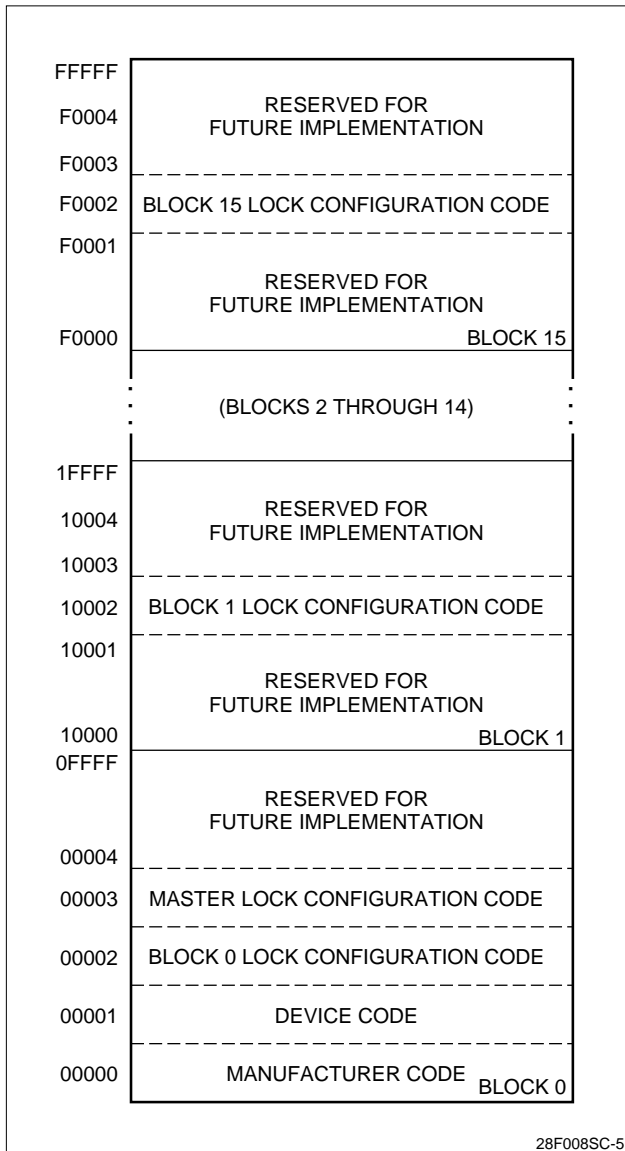

Figure 5. Device Identifier Code Memory Map
The LH28F008SC is a high-performance 8M SmartVoltage FlashFile memory organized as 1M of 8 bits. The 1M of data is arranged in sixteen 64K blocks which are individually erasable, lockable, and unlockable in-system. The memory map is shown in Figure 5.
The read identifier codes operation outputs the manufacturer code, device code, block lock configuration codes for each block, and the master lock configuration code (see Figure 5). Using the manufacturer and device codes, the system CPU can automatically match the device with its proper algorithms. The block lock and master lock configuration codes identify locked and unlocked blocks and master lock-bit setting.
IA = Identifier Code Address: see Figure 5.
The identifier code operation is initiated by writing the Read Identifier Codes command. Following the command write, read cycles from addresses shown in Figure 5 retrieve the manufacturer, device, block lock configuration and master lock configuration codes (see Identifier Code Table for code values). To terminate the operation, write another valid command. Like the Read Array command, the Read Identifier Codes command functions independently of the  $V_{PP}$  and  $\overline{RP}$  can be  $V_{IH}$  or  $V_{HH}$ . Following the Read Identifier Codes command, the following information can be read:
1. X selects the specific block lock configuration code to be read. See Figure 5 for the device identifier code memory map.